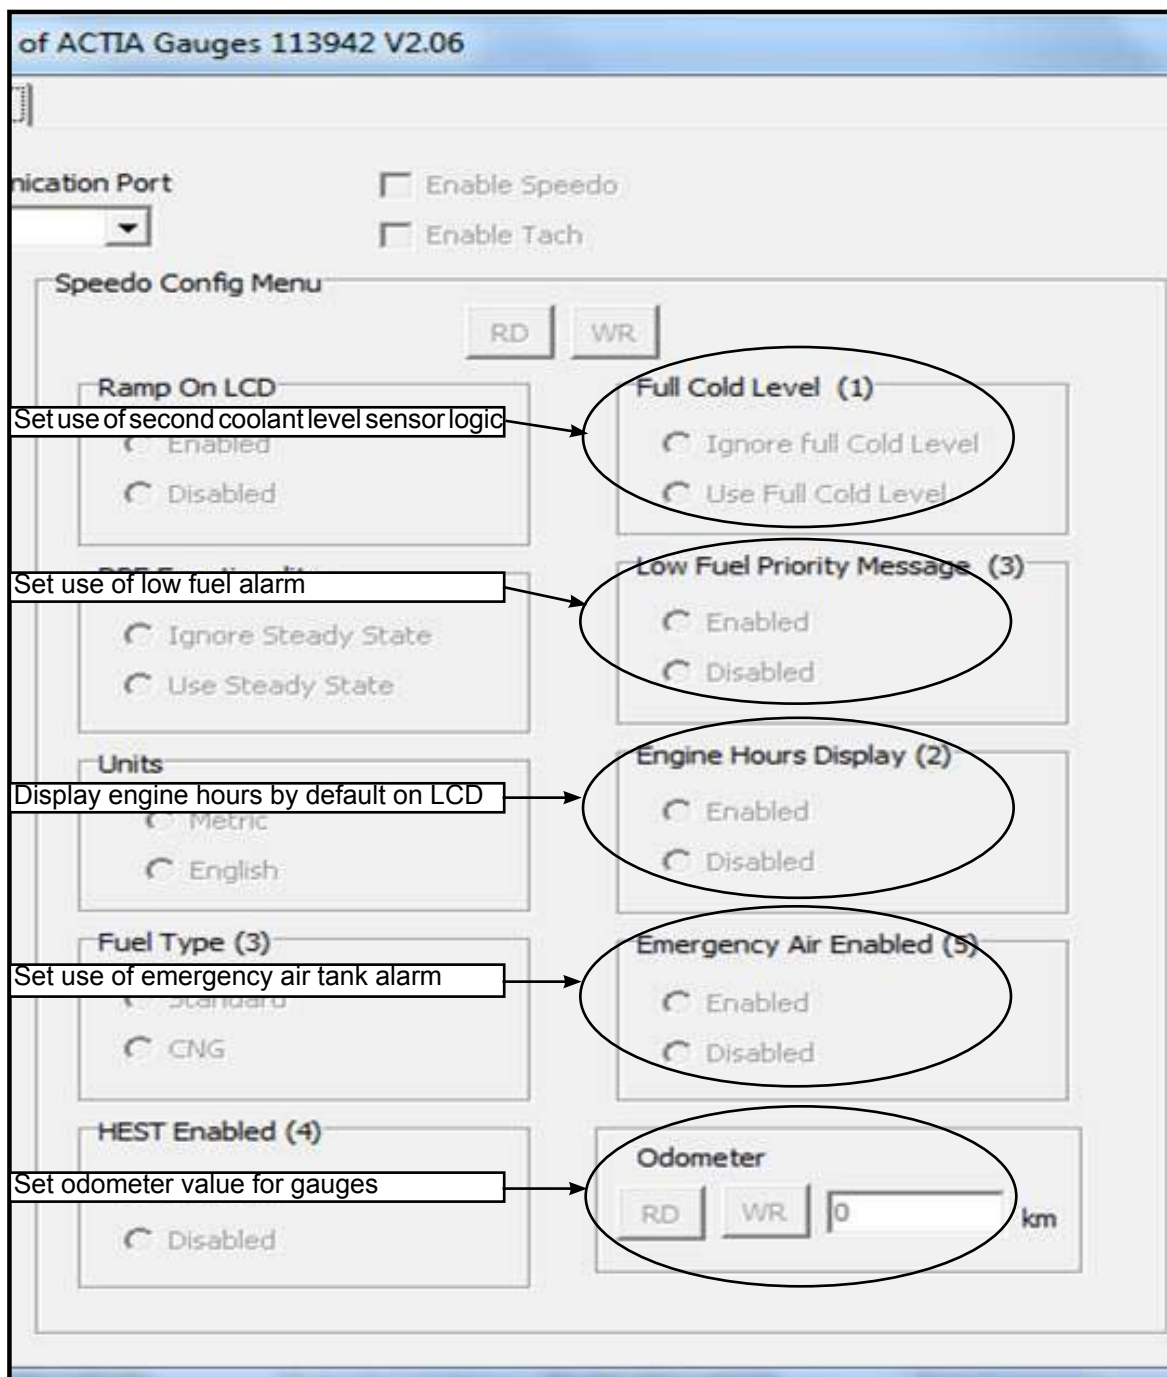

Figure 4 - Speedometer Parameters
2.3. Speedometer parameter overview (see Figure 4).